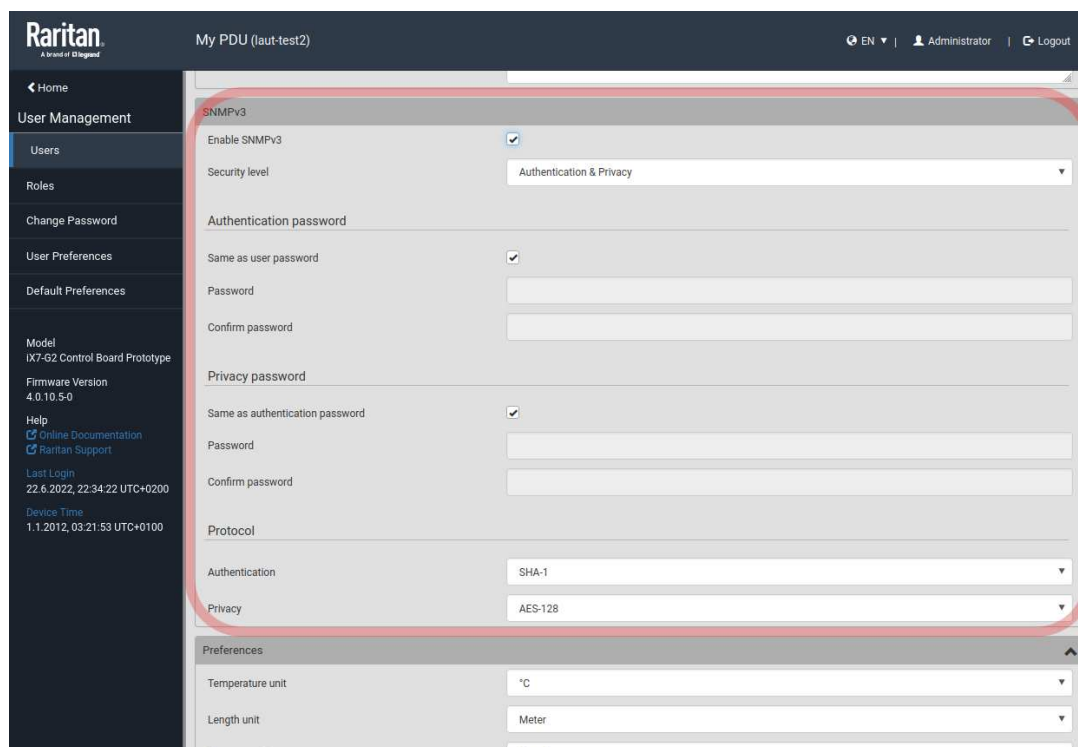

Figure 3: SNMP v3 user setup dialog of web user interface
**SNMP v3** authentication is set up on a per user basis. The settings are accessible in user settings (see figure 3).